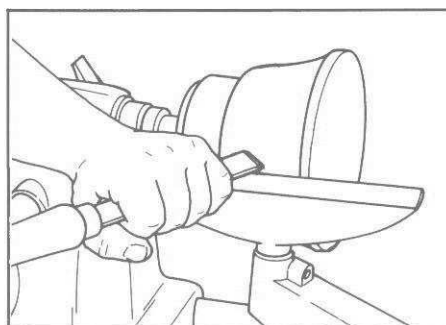

Figure 13. Shaping the outside.
3. Shaping the outside—Make the beads and coves in the same manner as for spindle shaping. (See Figure 13.) If the wood grain is perpendicular to the axis of rotation, do not shear.